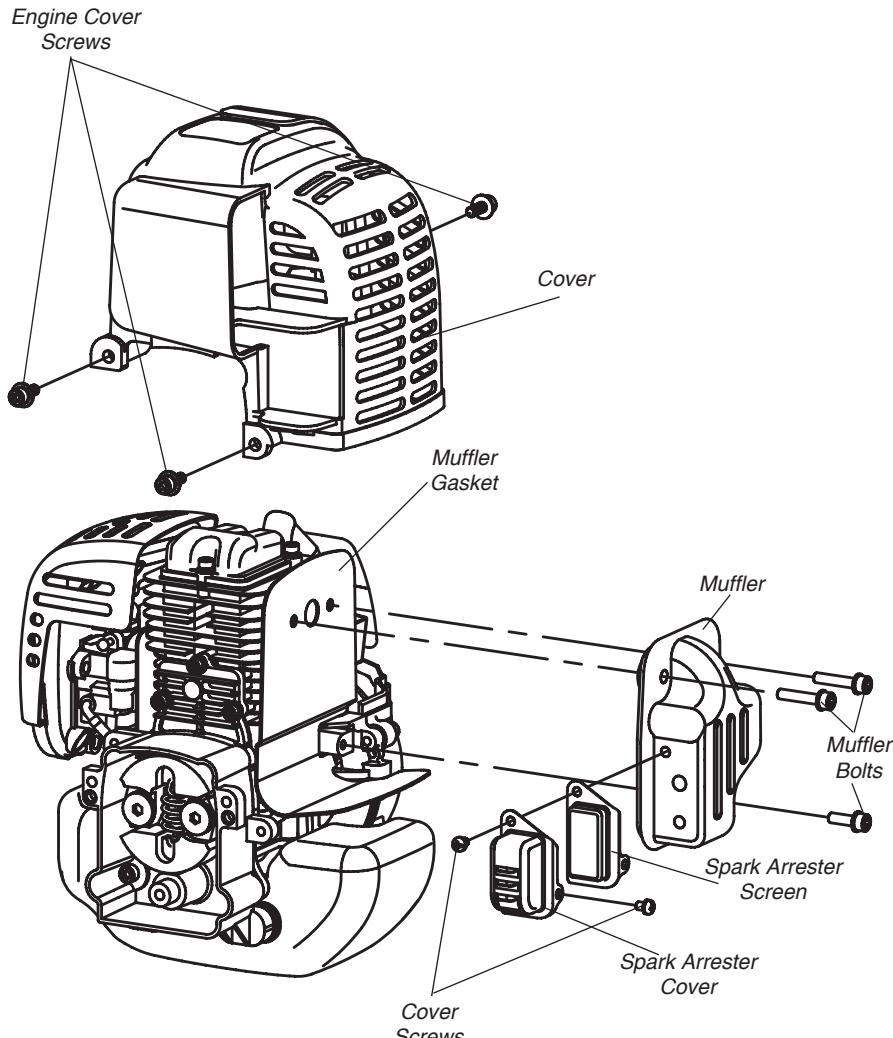

Figure 36
- With a 4 mm hex wrench remove the 3 engine cover screws and the engine cover. See Figure 36.
- With a 4 mm hex wrench remove the 3 muffler bolts and the muffler. See Figure 36.
- With a small flat bladed screwdriver remove the 2 screws holding the spark arrester screen and cover to the muffler. See Figure 36.